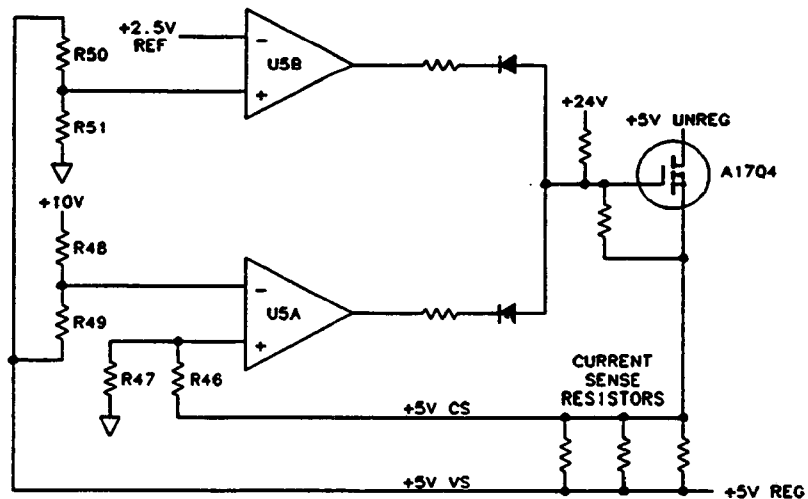

Figure 8-14. +5 Volt Supply Circuit
**Voltage Regulation and Current Foldback Circuitry.** The +24V, +15V, +5V, -2V, -5V, and -15V regulator and current foldback circuits all work similarly (Service Sheets A17a and A18a). Only the operation of the +5V circuitry will be discussed. The operation of the other supplies can then be inferred from this discussion and by comparing the +5V schematic to the schematics of the other supplies. Refer to Figure 8-14 and the schematics for the following discussion.